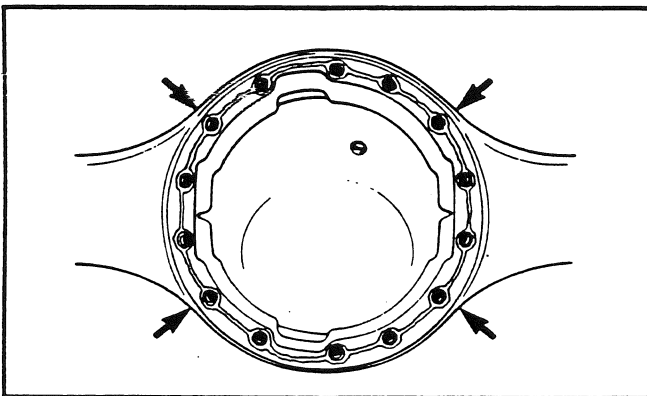

Fig. 96
6. Install bolts and washers in the four corner locations around the carrier and housing (see Fig. 96). Tighten the bolts hand tight. Carefully push the carrier into position. Tighten the four bolts two or three turns each in a diagonal sequence. Repeat this procedure until the four bolts are tightened to the specified torque.